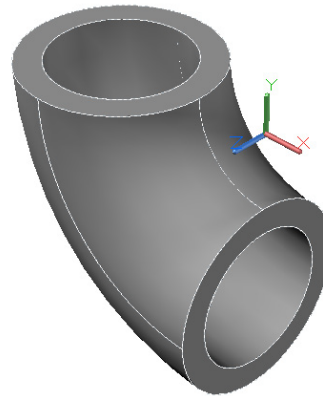

Figure 3-127 Resulting sweep feature
11. Set the view to **SE Isometric** by choosing the appropriate hotspot in the ViewCube. Also, select the **Realistic** option in the **Visual Styles** drop-down list in the **View** panel. The resulting model should look similar to the one shown in Figure 3-127.